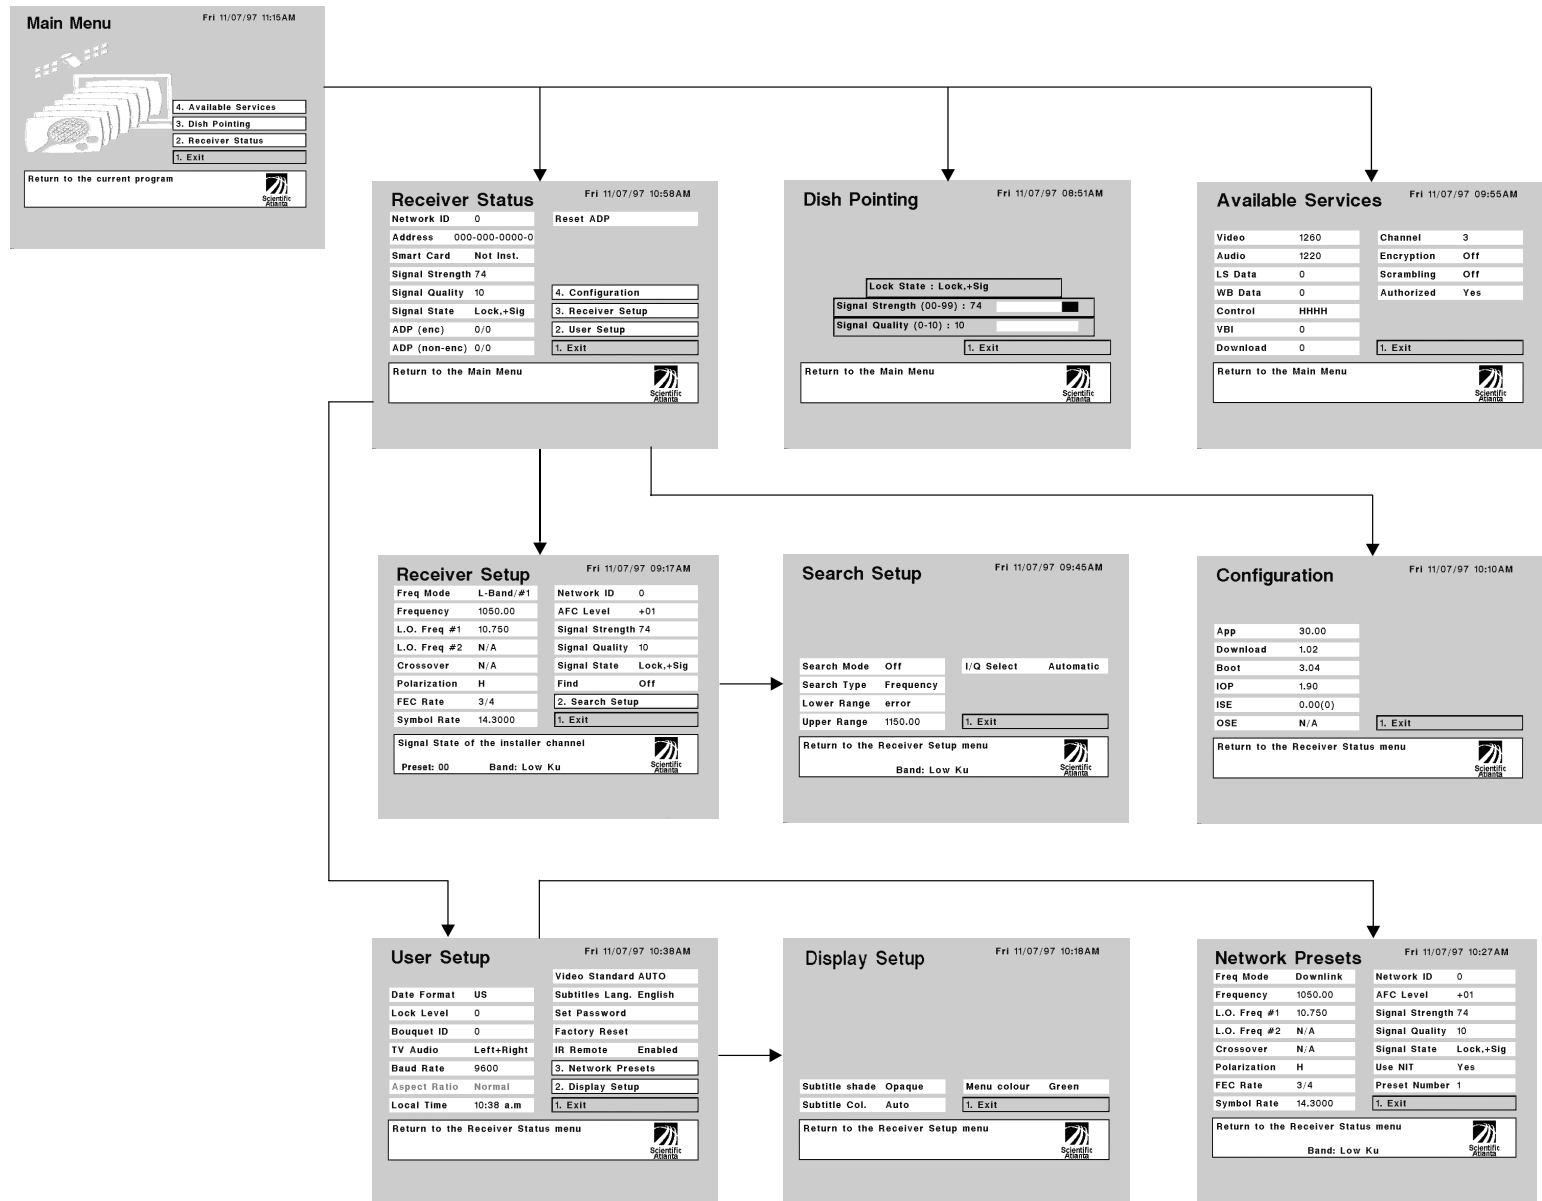

Figure7. Menus at-a-glance
Step 1. Display the **Main Menu** (see Figure 7).